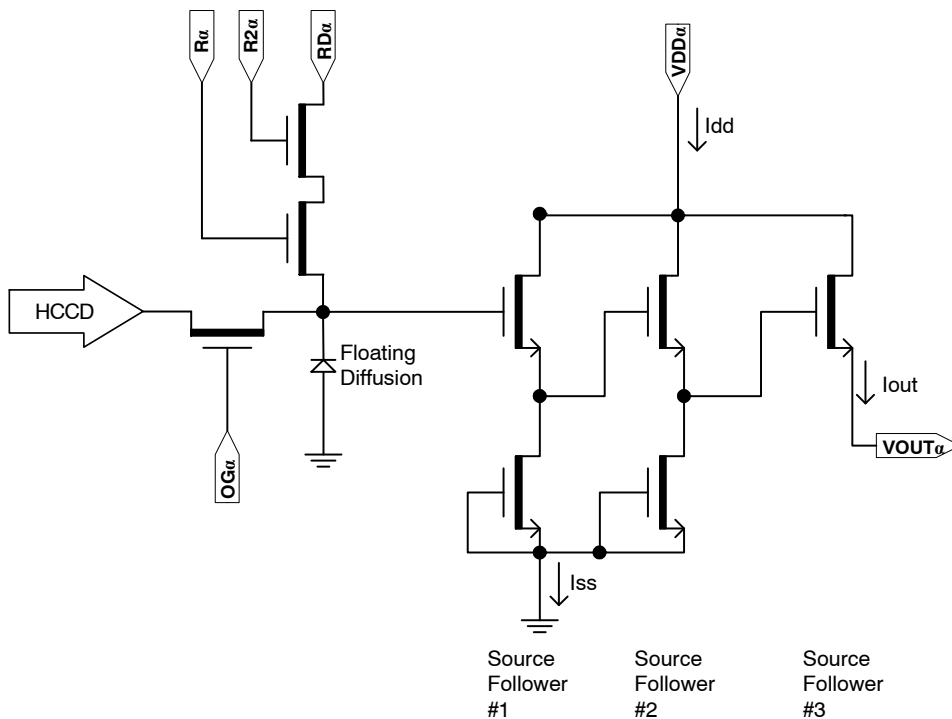

Figure 20. Output Amplifier – Showing Dual Reset Pins
- The maximum DC current is for one output. I_{dd} = I_{out} + I_{ss}. See Figure 20.